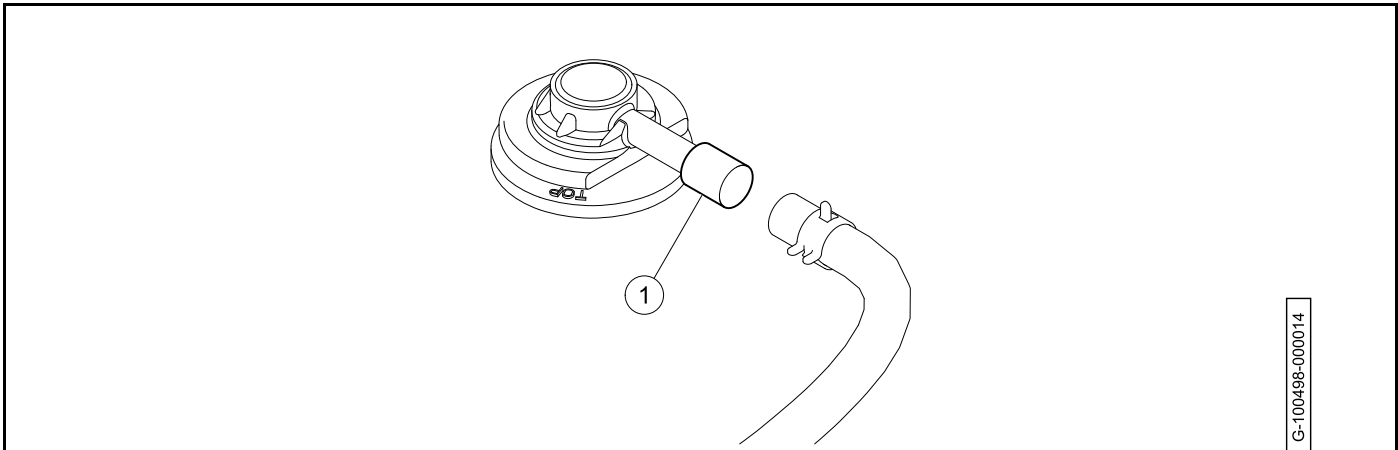

Figure 3-3 Fuel Tank Vent Nipple
- 2.1. Remove and discard the slip-on vinyl cap (1) from the fuel tank vent nipple (**Figure 3-3, Page 3-6**).